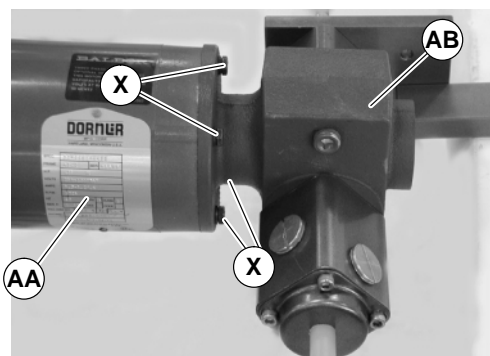
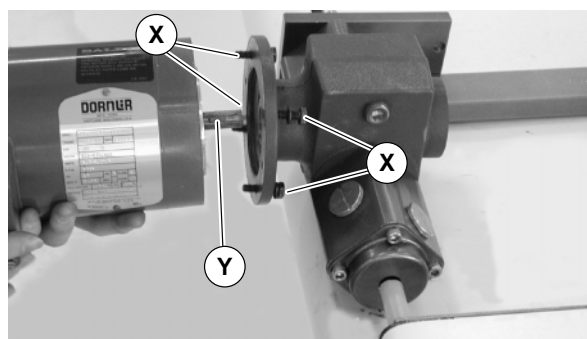

Figure 42
Figure 43
4. Remove four screws (X of Figure 42). Detach motor (AA) from gear reducer (AB). Retain motor output shaft key (Y of Figure 43).
5. With key (Y of Figure 43) in keyway, slide new motor and gear reducer together. Install screws (X) and tighten.